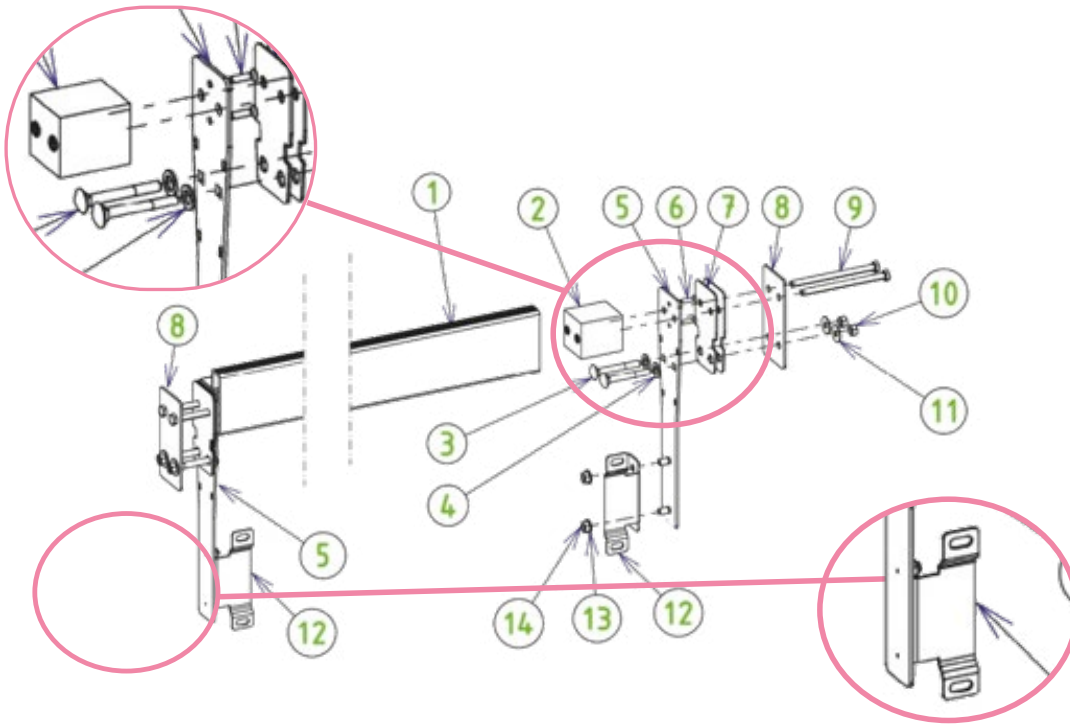

Figure 43 – Assembling and mounting the beam
Fasten the two pit wall mounting brackets (12) to the beam mounting plates (5) using four nuts (14) and four 8 mm diameter A4 SS washers (13). The protruding parts of the pit wall mounting brackets (12) that feature a slot should be located on the side opposite the skimmer and the automatic cover axle (see the zoom focused on the pit wall mounting brackets (12) in *Figure 43*
Lastly, fasten the pit wall to the brackets (part 12 in *Figure 43*) using four 8 × 16 stove screws (7), four washers and four 8 mm diameter A4 SS nuts.